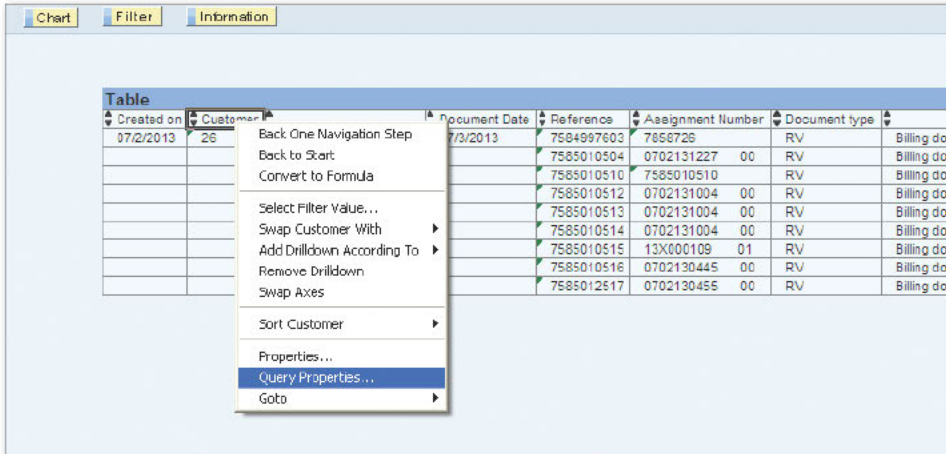

Figure 1 Selecting the Query Properties Option from the Context Menu
1. In the open query, click on the PROPERTIES button on the toolbar (, see Figure 1).
⤴ Figure 1 BEx Query Designer Toolbar
1. Right-click on the result section, and select QUERY PROPERTIES (Figure 1).
1. Create a BEx query that will provide the necessary selections and variable prompts to return the required fields and data. For example, Query 1 (Figure 1)
➤ *Figure 1 Query 1 with Customers in Rows and Number of Records in Columns*